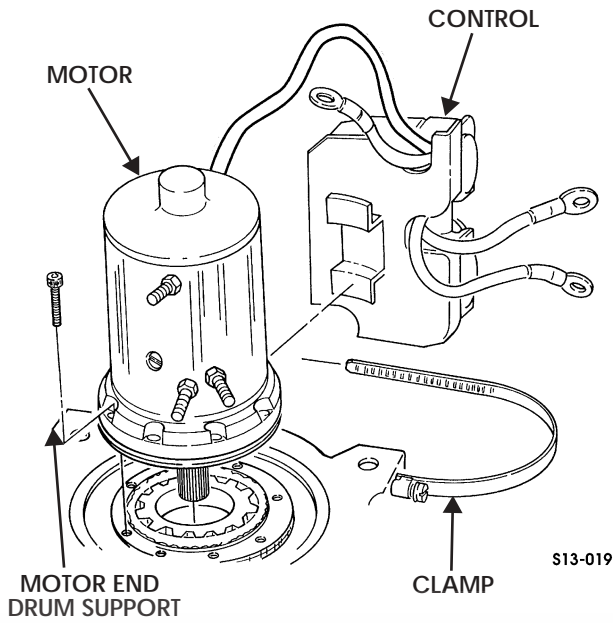

Figure 13-23: Control Unit and Motor
- Loosen two clamps and remove control from motor (Figure 13-23).